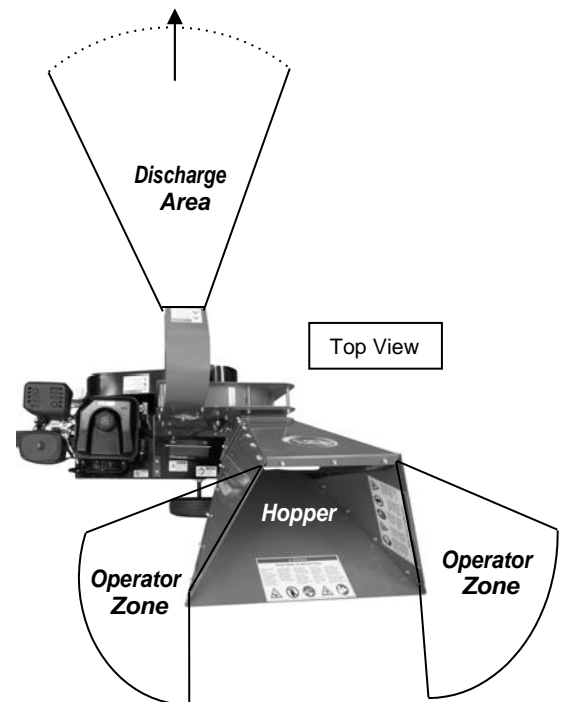

Figure 24
- Only operate the GRAVITY SELF-FEEDING WOOD CHIPPER from the Operator Zones shown (**Figure 24**).